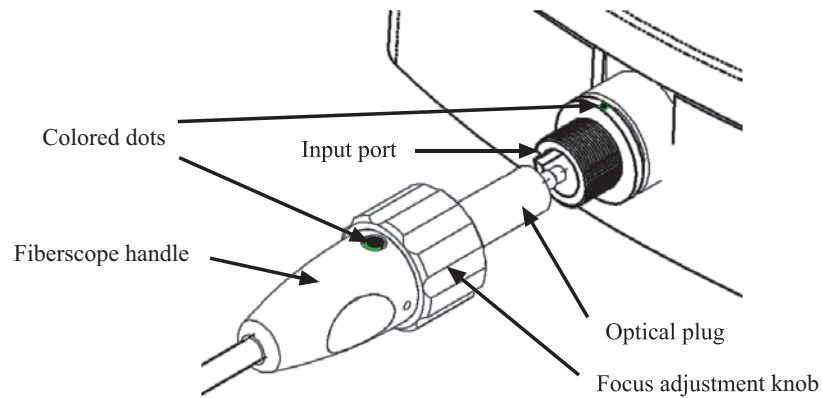

Figure 5. Aligning and connecting the fiberscope
- a. Align the colored dot on the handle of the fiberscope with the matching dot on the fiberscope input port of the video box, as shown in Figure 5.